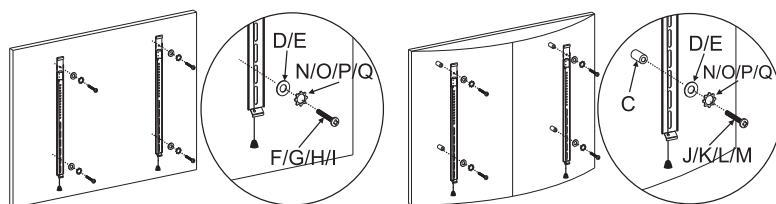

Figure 4 – Attach Arms to Rear of TV.
1. Use correct bolt size (F, G, H or I) with corresponding lock washers (N, O, P or Q) through round washers (D or E) to attach arms to rear of TV. Use longer bolts (J, K, L or M) and plastic spacers (C), if rear of TV is curved or recessed. To avoid damaging TV, do not over tighten bolts. See Figure 4.